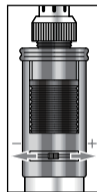

Fig.2
1. Set **Gas Control Lever** at mid position. (Fig. 2)